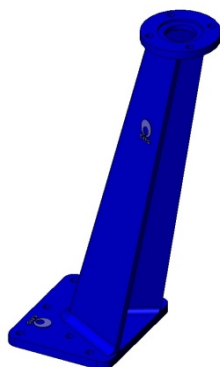

fig. 10
- Leaning floor stand (Fig. 10)